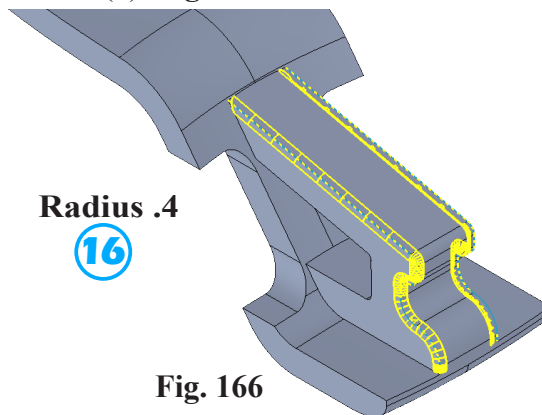

Fig. 166
- ⑯ Radius  .4
click side edges on outside (2), Fig. 166